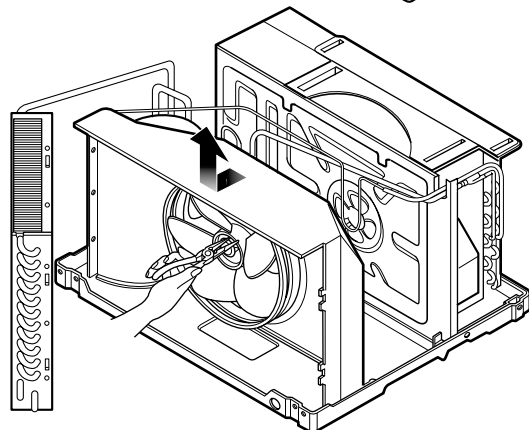

Figure 7
6. Remove the fan and then pull out the shroud. (See Figure 7)